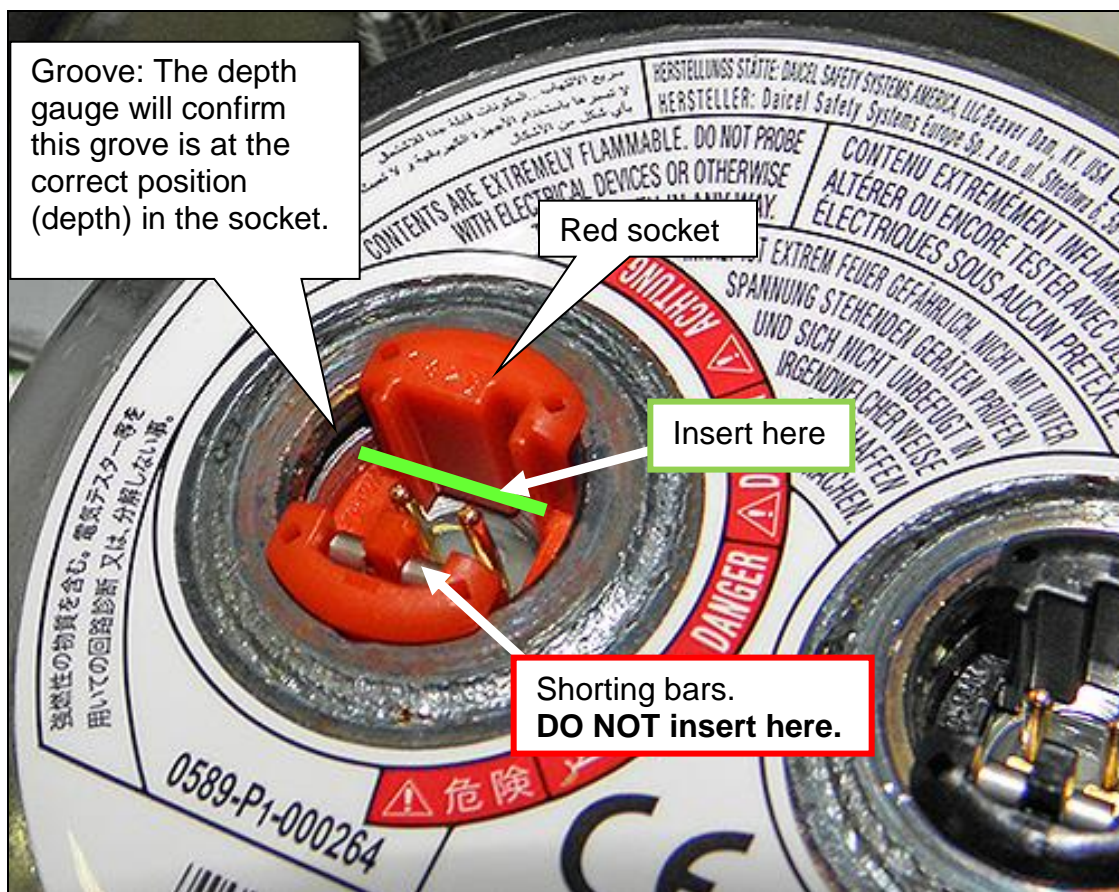

Figure 2
a. Insert the depth gauge into the red socket shown in Figure 2 between the terminal pins and collar.